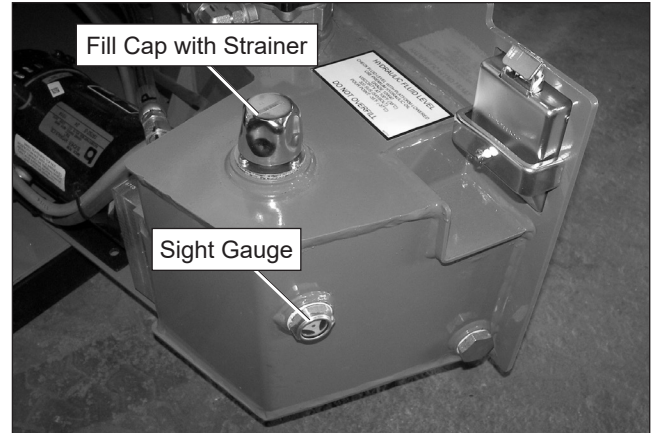

Figure 8.6 – Hydraulic Tray
1. Make sure the aerial platform is fully stowed on a level surface. Swing out the hydraulic tray and visually check to make sure the fluid is visible in the sight gauge (refer to Figure 8.6). Some machines may have a fill cap with a dipstick. The fluid must be visible on the dipstick.